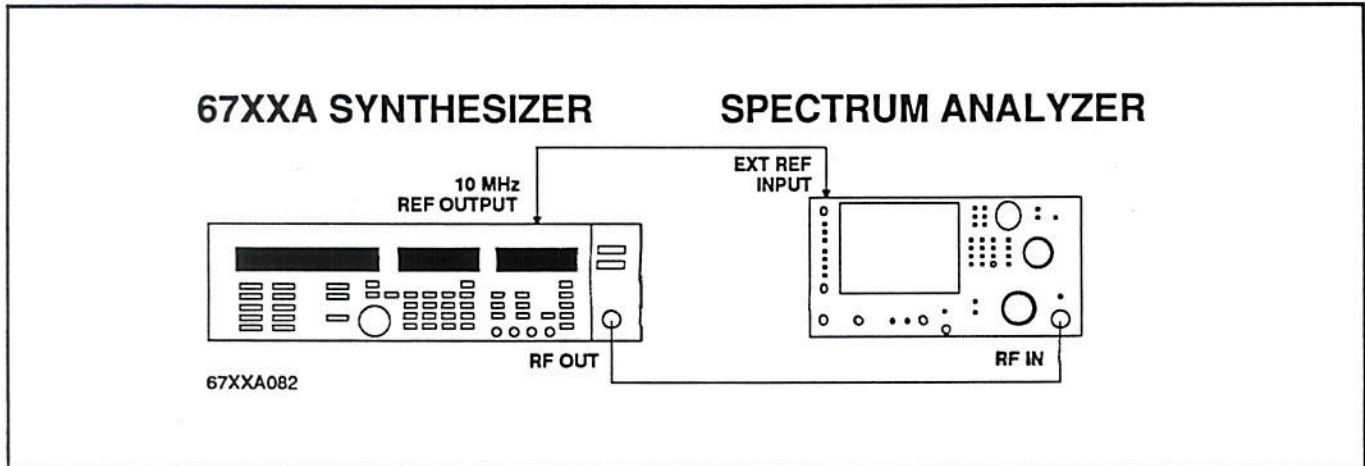

Figure 2-6. Equipment Setup for Harmonic Test: RF Output Signals From 2 to 10 GHz
1. Connect equipment as shown in Figure 2-6.